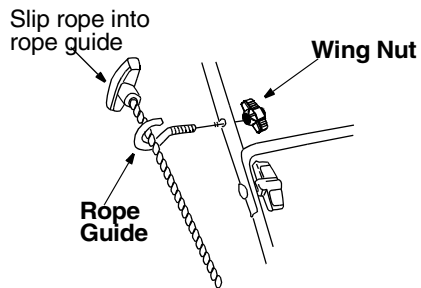

Figure 5
- The rope guide is attached to the right side of upper handle. Loosen the wing nut which secures the rope guide. See Figure 5.
- With spark plug wire disconnected and grounded, hold the blade control handle against the upper handle, and pull the starter rope out of the engine. Release blade control handle. Slip the rope into the rope guide. Tighten the wing nut. See Figure 5.